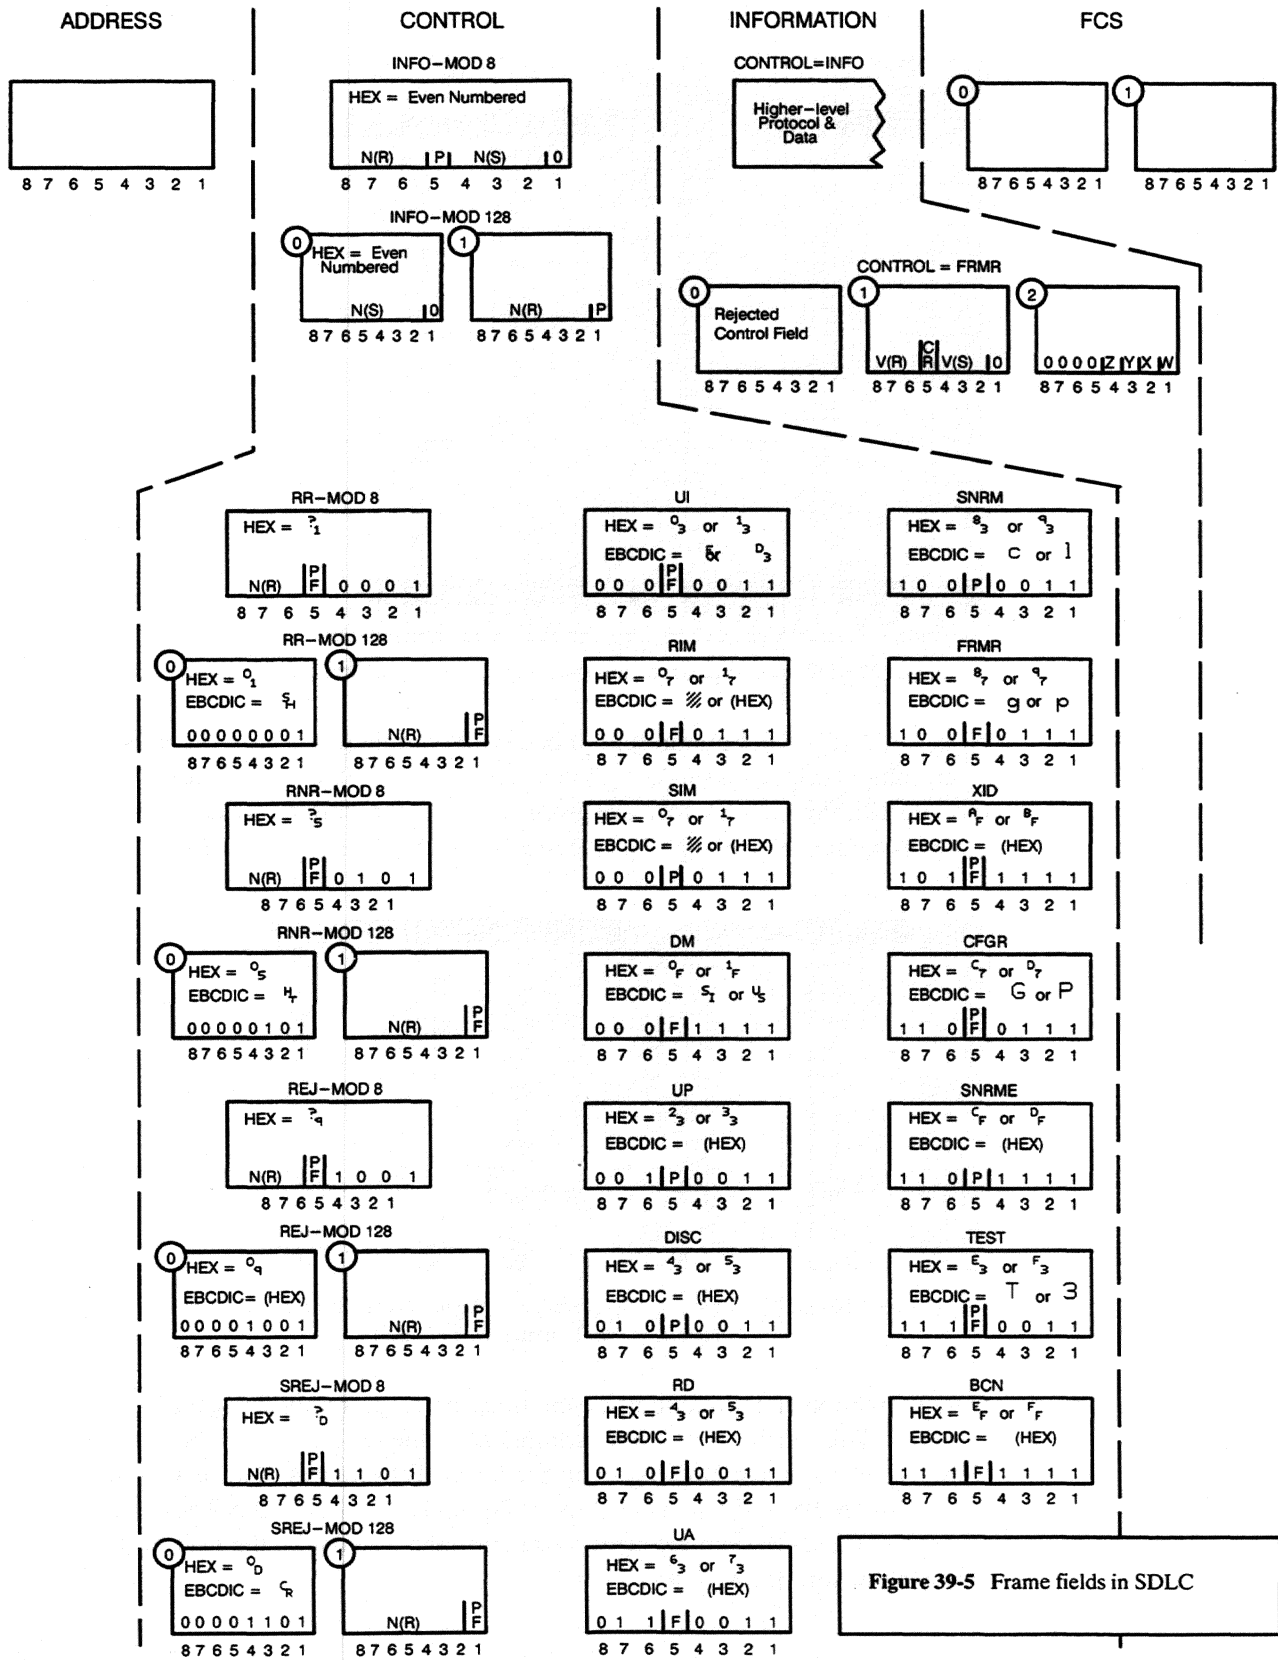

Figure 39-5 Frame fields in SDLC
MOD 8 uses sequence numbers 0–7. MOD 128 adds an extra byte to the control field in INFO, RR, RNR, REJ, and SREJ frames. See Figure 39-5. This extra byte allows sequence numbers in a range of 0–127.
2. *Address.* The address byte (see Figure 39-5) is given in the **ADDR** column, with its two hexadecimal digits presented as full-size alphanumerics.
3. *Type.* The mnemonic (abbreviated) names for twenty frame types as they appear in the **TYPE** column of the protocol trace are shown in Figure 39-5 under "CONTROL." The control field, therefore, indicates the frame type. If a control octet does not fit any of the patterns in the figure, the frame is listed in the **TYPE** column as UNKWN followed by the hexadecimal value of the control byte: UNKWN=3F.
4. *N(R) and N(S).* One column on the frame-level trace is devoted to N(R) values, and one column to N(S). The frame types that include N(R) or N(S) fields in their control fields are indicated in Figure 39-5.
5. *P and F.* The status of the poll or the final bit is given in the P/F column. Whether this bit is the P- or F-bit is indicated for most frame types in Figure 39-5 (under "CONTROL").
1. *Info frames.* INFO frames differ for MOD 8 and MOD 128 numbering schemes. (See Figure 39-5.) For spreadsheet conditions to match I-frames accurately, the correct numbering system (“**Mode of Operation**”) should be selected on the Frame Level Setup screen.
2. *Supervisory frames.* The four supervisory-frame types that can be searched for on the data leads are RR (Receive Ready), RNR (Receive Not Ready), REJECT, and SREJ (Selective Reject). These frames always contain N(R) fields (see Figure 39-5) and serve mainly to acknowledge or reject INFO frames.